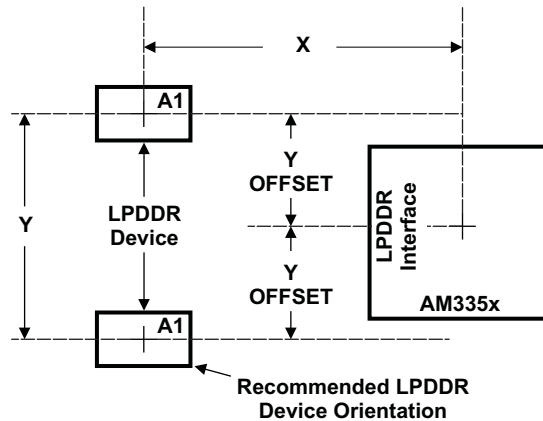

Figure 5-30. AM335x Device and LPDDR Device Placement
Figure 5-30 shows the required placement for the LPDDR devices. The dimensions for this figure are defined in Table 5-30. The placement does not restrict the side of the PCB on which the devices are mounted. The ultimate purpose of the placement is to limit the maximum trace lengths and allow for proper routing space. For single-memory LPDDR systems, the second LPDDR device is omitted from the placement.
- (1) LPDDR keepout region to encompass entire LPDDR routing area.
- (2) For dimension definitions, see Figure 5-30.
- (3) Measurements from center of AM335x device to center of LPDDR device.
- (4) For single-memory systems, it is recommended that Y offset be as small as possible.
- (5) w is defined as the signal trace width.
- (6) Non-LPDDR signals allowed within LPDDR keepout region provided they are separated from LPDDR routing layers by a ground plane.